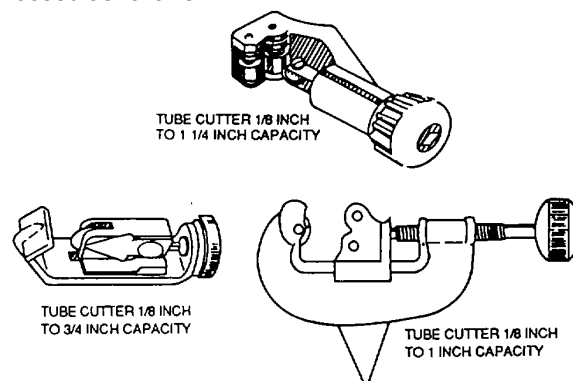

Figure 4-115. Tube Cutters
(2) Tube Cutters. Tube cutters are used to cut tubing made of iron, steel, brass, copper, and aluminum. They resemble pipe cutters, except that they are of lighter construction. Some tube cutters have built-in portions in the body which are rotated in the tubing after it is cut to eliminate any burrs, shown in figure 4-115.